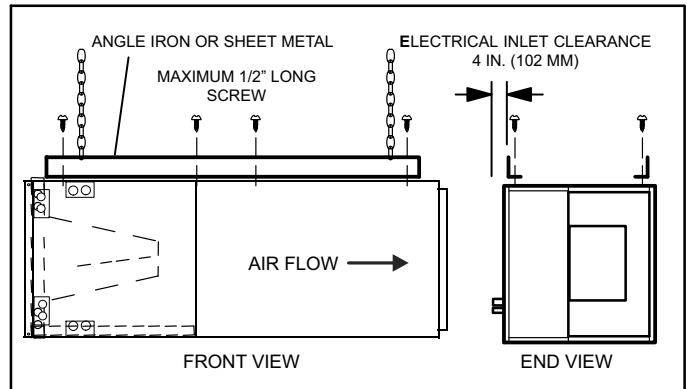

Figure 23. Suspending Horizontal Unit
5. If the unit is suspended, the entire length of the cabinet must be supported. If you use a chain or strap, use a piece of angle iron or sheet metal attached to the unit (either above or below) to support the length of the cabinet. Use securing screws no longer than 1/2 inch to avoid damaging the coil or filter. See figure 23. Use sheet metal screws to connect the return and supply air plenums as required.